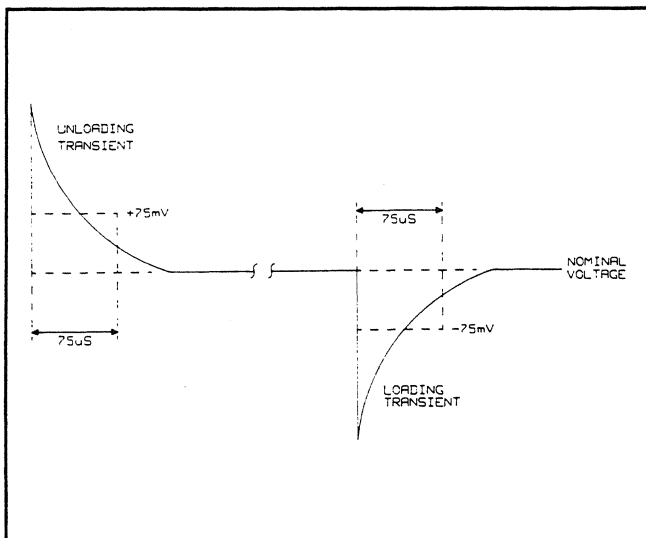

Figure 3-9. Transient Response Waveform
h. Adjust the oscilloscope trigger level for a stationary waveform as shown in Figure 3-9 and check that the loading transient is within 75 mV of its final value in less than 75  $\mu$ s.
i. Change the oscilloscope settings to + slope and repeat steps g and h for the unloading transient (see Figure 3-9).